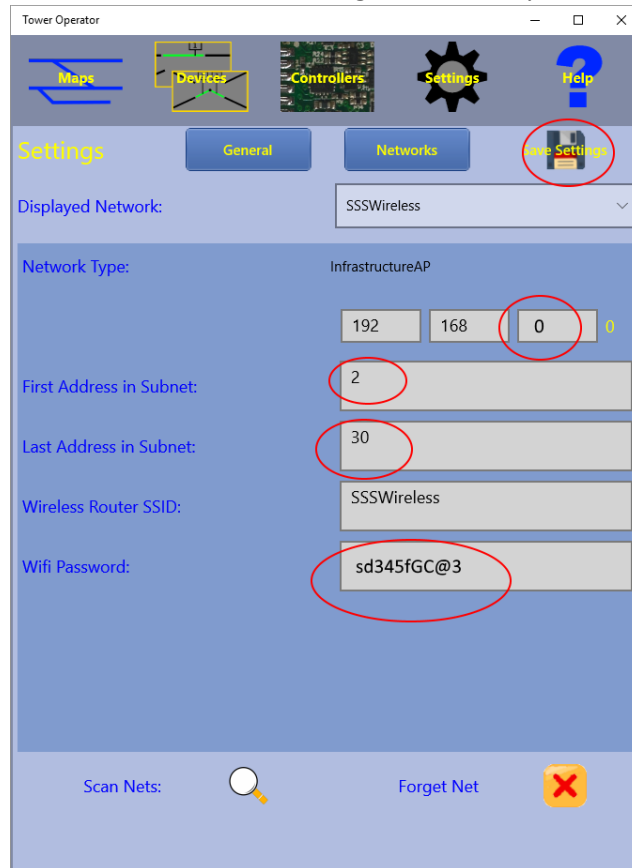

Figure 19 Settings Screen, Networks Tab for Tower Operator
- (2) On the Settings page that displays next, as Figure 19, choose your home net in the displayed network drop-down selector at the top, then set the Subnet Address underneath correctly and also the first and last address in the scan range. Also enter your Wi-Fi password.